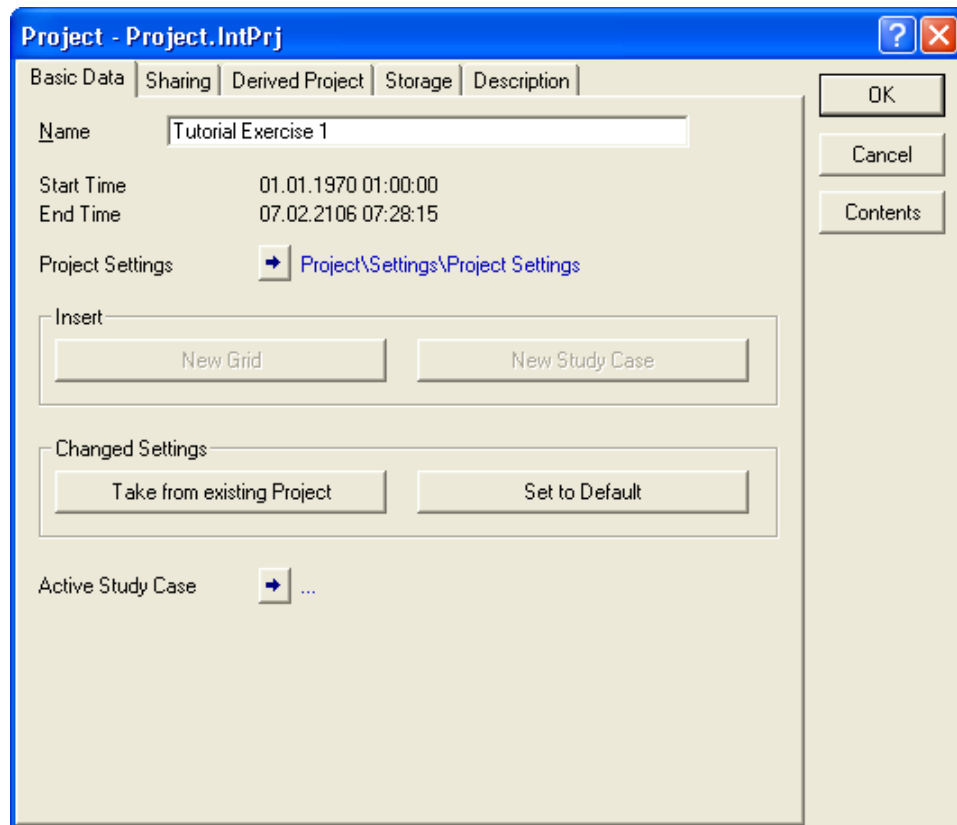

Fig. C.4: The project dialogue (IntPrj)
- ▶ The dialogue shown in figure C.4 will pop up. This dialogue, as most others in this Tutorial, is shown as it should look after we have finished editing it.